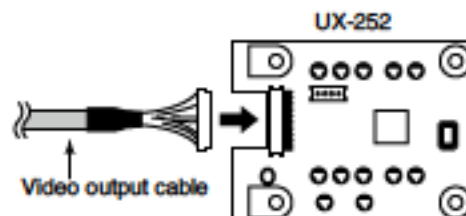

Fig. 3
5. Connect the video output cable to the connector on the UX-252. (Fig. 3)